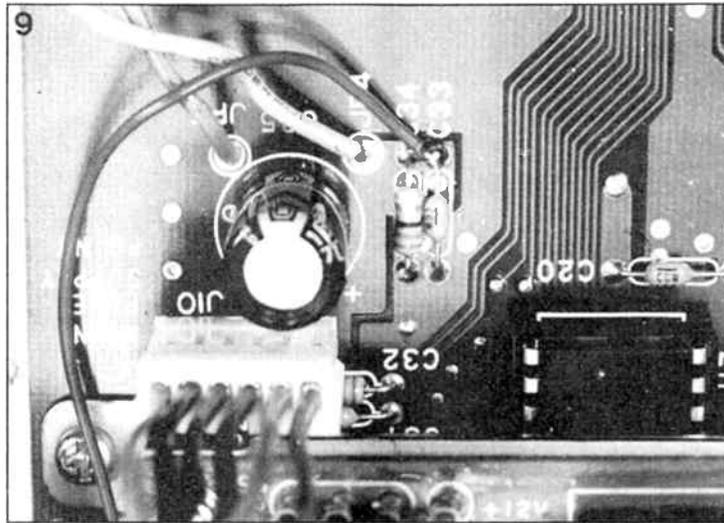

Fig. 9. Where to tap the +5 V supply for the interface. (Atari 1040-ST only).
- Connect pin 12 of the D socket to the terminal of C₃₃ (or C₃₄) facing the front of the computer (see Fig. 9).